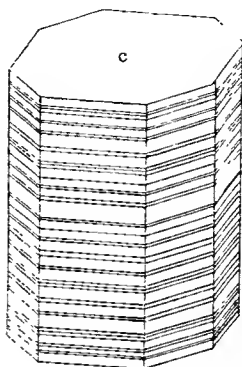

Figure 228. Pyroxene Crystal, Showing Parting
*Cleavage:* Both minerals have *cleavage parallel to the prism faces* just mentioned. It is easy and very common in amphibole and rarer in pyroxene. Pyroxene also frequently shows a "parting," or pseudo-cleavage, parallel with the base, which may be noted not only in actual breaks, but also in lines on the prism parallel with the base, as shown in figure 228. You will, of course, much more frequently meet these minerals in crystalline masses than in distinct crystals. If, therefore, you remember that the cleavage is parallel with the prism faces and consequently that its angles will be the same as in crystals, you will often be able to recognize these minerals in the field when collectors who have not studied these differences will not know which mineral they have found.
*Parting*: parallel to base, *c*, often prominent, figure 228, see page 214.